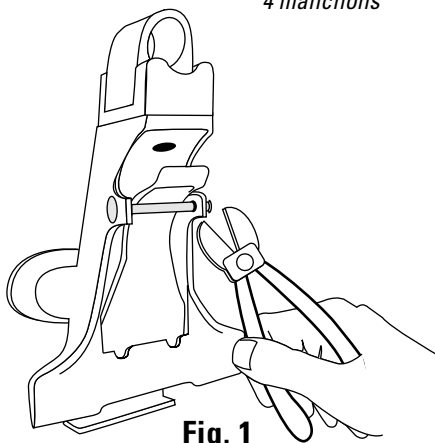

Fig. 1
1. Remove the rivet that is included with your 1A Towers. The rivet will need to be cut with side-cutting pliers or fine-tooth saw. (Fig.1)